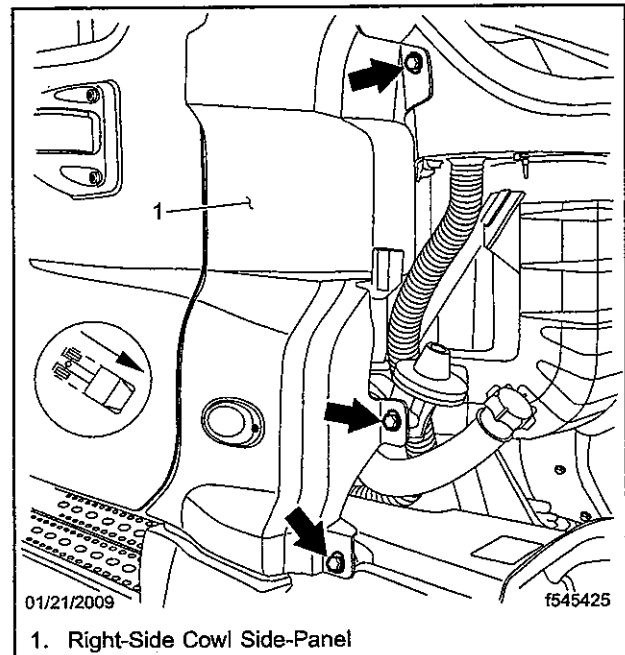

Fig. 8, Forward Cowl Side-Panel Fasteners
- 15.2 Remove the three fasteners that hold the forward edge of the side panel in place. See **Fig. 8**.